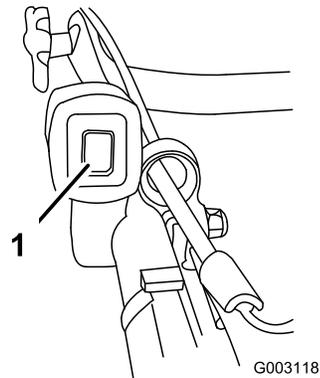

Figure 28
1. Push the ignition toggle switch to the Stop position (Figure 28).